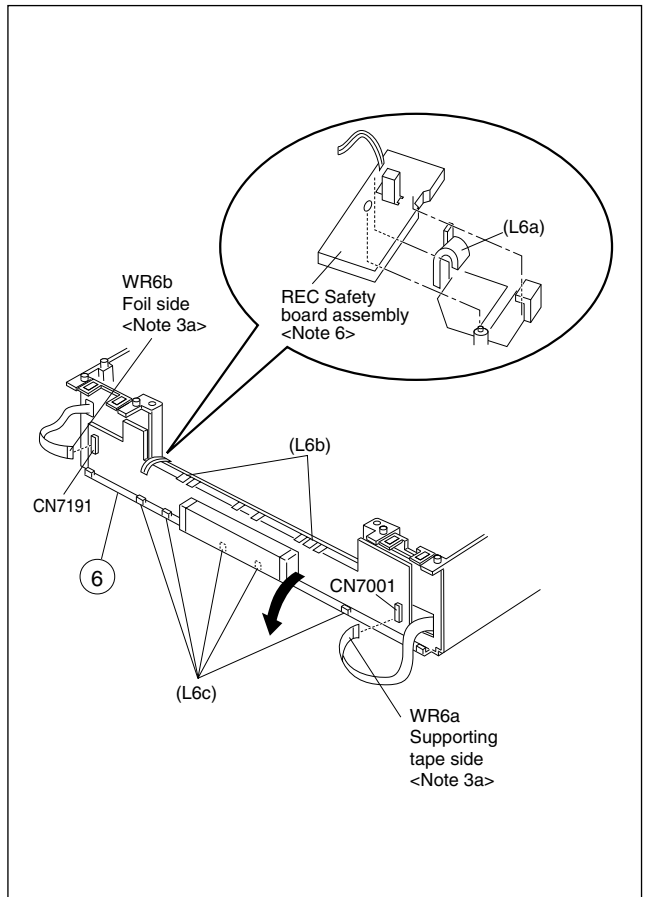

Fig. D6
- (7) Remove the SW/Display board assembly and REC safety board assembly. (Refer to page 1-3 of 1.3 DISASSEMBLY/ASSEMBLY METHOD. Take care not to pull the flat wires (Fig. D6) from CN7001 and CN7191.)